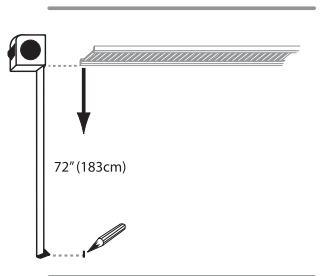

FIG. 2.1
- Measure down 72" and mark location on the wall. (Fig 2.1)